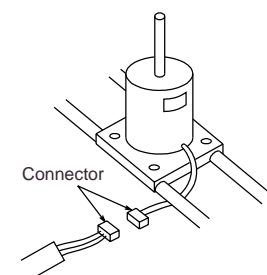

Fig.3
- Remove the connector of the motor, referring to Fig.3.